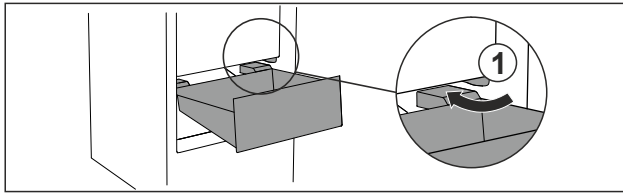

Fig. 69
- ▶ Guide drawer in at an angle around the stoppers *Fig. 69 (1).*